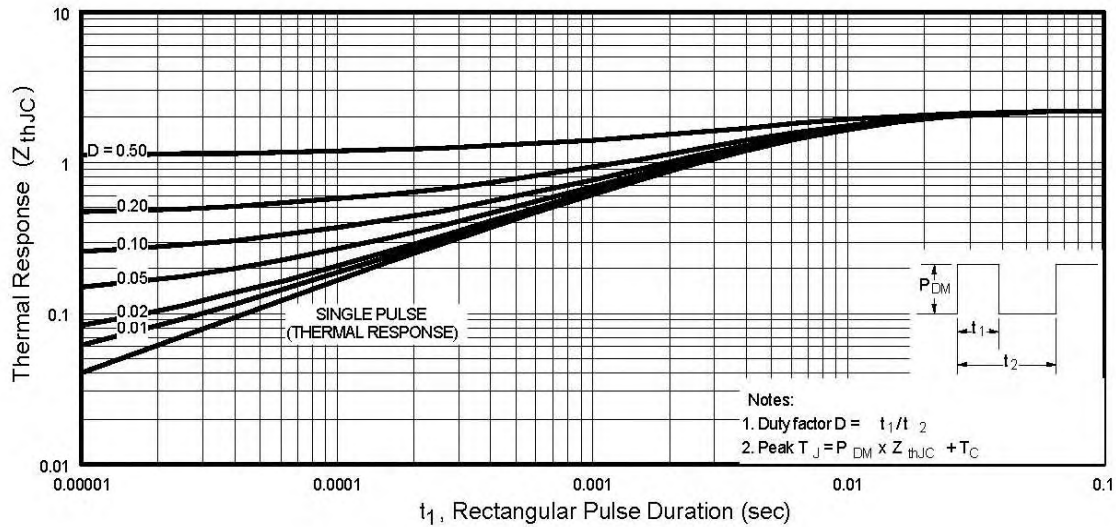

Fig 11. Maximum Effective Transient Thermal Impedance, Junction-to-Case
- ① Repetitive rating: pulse width limited by max. junction temperature. (See fig. 11)
- ② Starting T_J = 25°C, L = 3.6mH